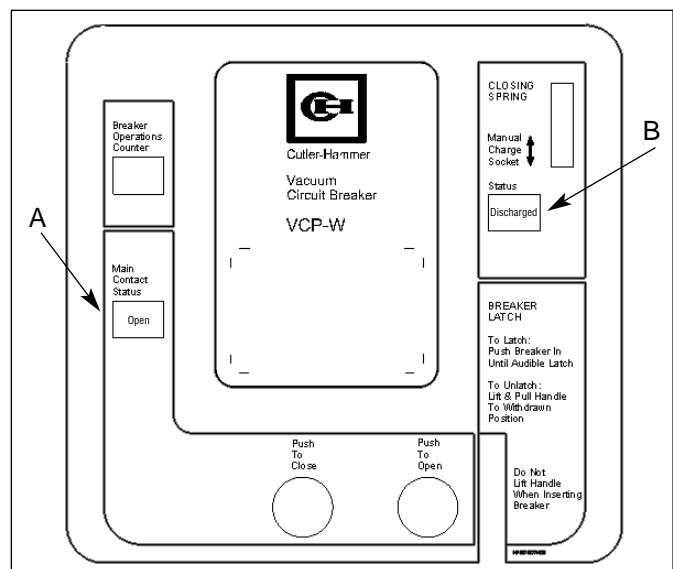

Figure 6-5 Status Indicators (“A” shows the contact status indication and “B” shows the spring indication.)
Step 1 - On the front cover identify the status indicators. **MAKE SURE THE CLOSING SPRING STATUS INDICATES “Discharged” AND THE MAIN CONTACT INDICATOR SHOWS “Open”** (Figure 6-5).